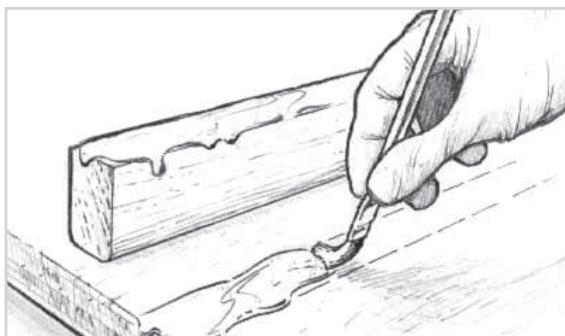

Figure 16-8 Wet out bonding surfaces with unthickened epoxy for maximum penetration and greater adhesion.
1. Wet-out bonding surfaces—Apply a straight resin/hardener mixture (without fillers) to the surfaces to be joined (Figure 16-8). Wet out small or tight areas with a disposable brush. Wet out larger areas with a foam roller or by spreading the resin/hardener mixture evenly over the surface with a plastic spreader. You may proceed with step two immediately or any time before the wet-out coat becomes completely tack free.